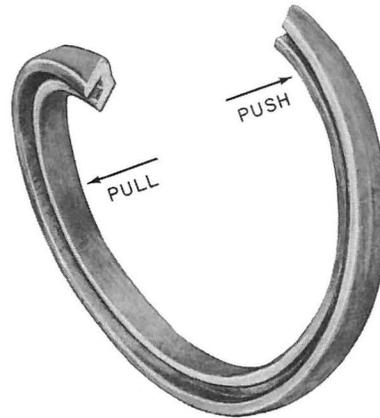

Fig. 25—Split B Lead Ring
- 12.01** Make diagonal cuts through the top of two B Lead Rings as shown in Fig. 25.